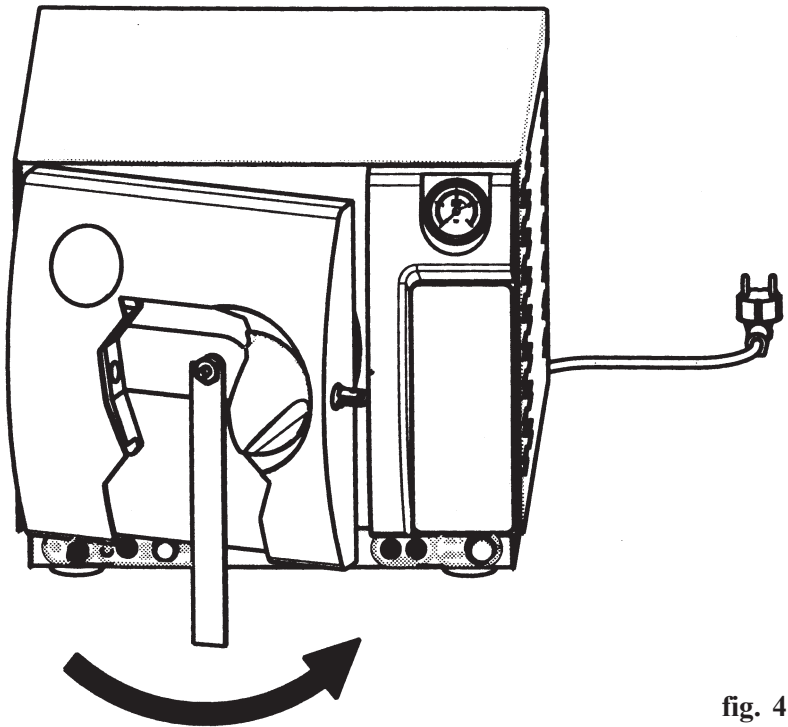

fig. 4
- ⇒ Adjust door closing just enough to secure good seal (fig. 4).
- Adjust door closing (fig. 4, page 36).